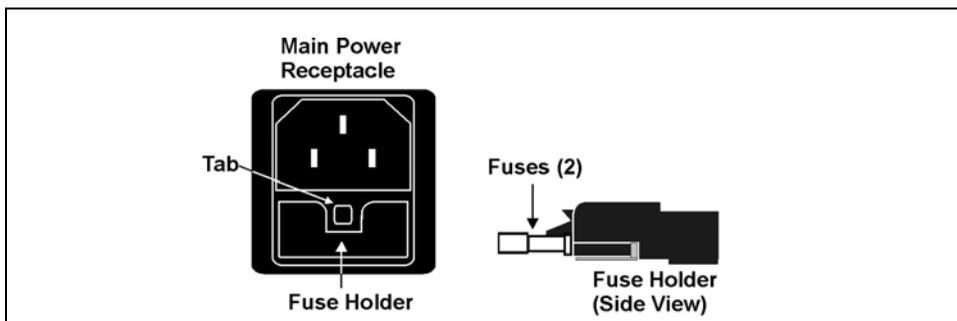

Figure 5-26. Main Power Fuse Holder
2. The fuse holder is part of the main power receptacle (see Figure 5-26) on the Dionex ICS-1100 rear panel. To remove the fuse holder, squeeze the tab on the top of the holder to release it and pull the holder straight out of its compartment.